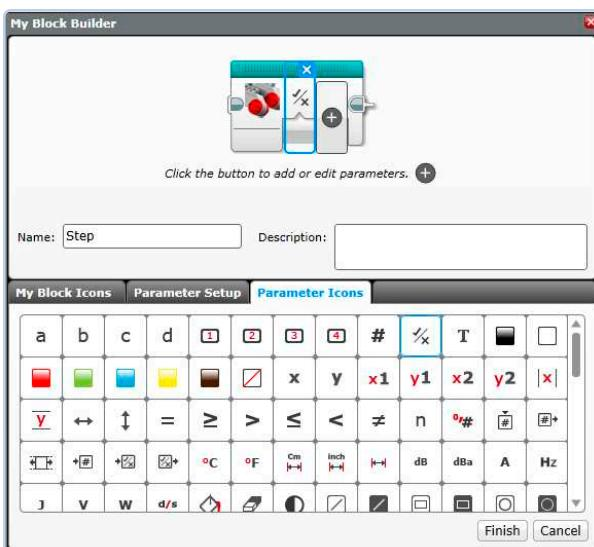

Figure 10-9: How to change the icon of a parameter in the My Block Builder tool
4. Go to the **Parameter Icons** tab and select the fourth icon from the right in the top row (the true/false symbols icon), as shown in Figure 10-9.